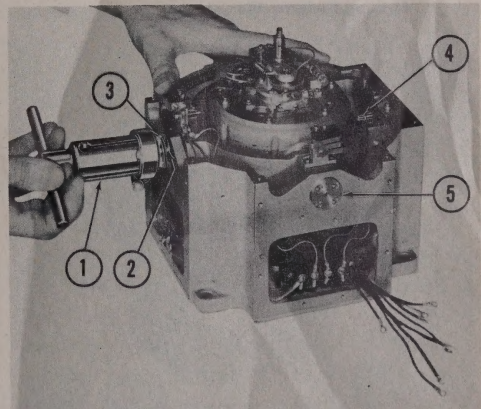

Figure 168 — Removing Gudgeon Pins With Puller
(g) Remove gudgeon pins Nos. 2 and 4 from housing, being careful to keep any shims (8) with the gudgeon pin under which they were found. (These shims provide alignment and end play adjustments. There may be shims under any, all, or none of the pins.) Place gudgeon pins Nos. 2 and 4 in marked sections of a tray, with the bottom bail bushings (7) previously removed. Gudgeon pins may usually be pushed out with the fingers; but if tight fits are encountered, a puller may be used. (See figure 168.)